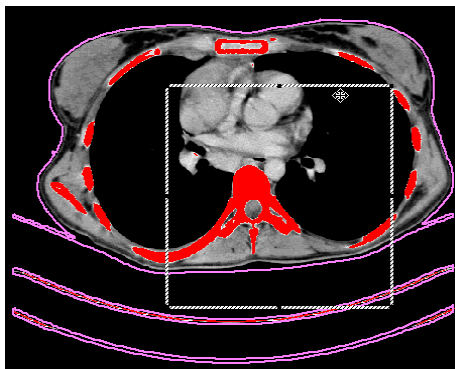

Figure 280 – Moving the rectangle constraint
- Move the rectangle or drag the sides to change its size until the desired area is demarcated (see Figure 280).